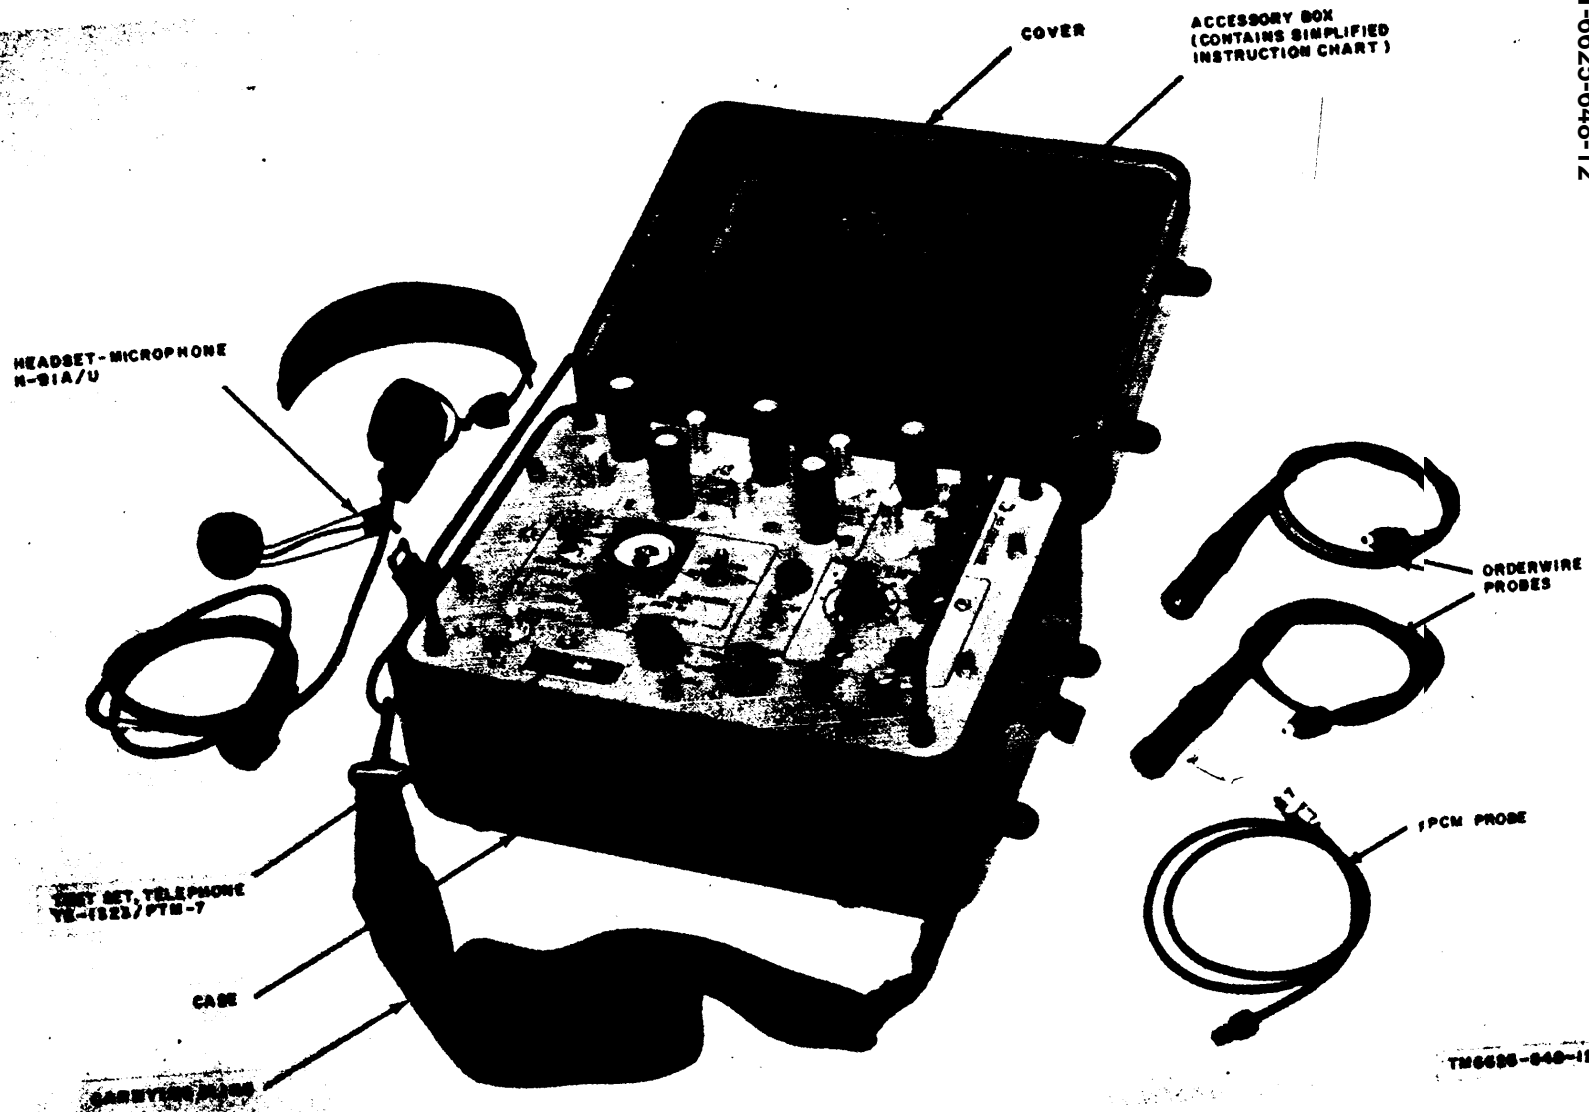

Figure 1-1. Test Set, Telephone AN/PTM-7.
This manual describes Test Set, Telephone AN/PTM-7 (fig. 1-1). It includes instructions for installation, operation, and organizational maintenance.
The AN/PTM-7 (fig. 1-1) can locate faults in a pulse-code modulation (pcm) cable link consisting of Restorers, pulse Forms TD-206/G and Cable, Special Purpose, Electrical CX-4245/G. The AN/PTM-7 also provides facilities for order-wire communication with attended stations.
- a. The AN/PTM-7 (fig. 1-1) is a transistorized, battery-operated hand-portable test equipment containing facilities for testing the CX-4245/G and the TD-206/G. Test Set, Telephone TS-1323/PTM-7, the major component of the AN/PTM-7, is enclosed in an aluminum case. When the cover of the case is in place, the TS-1323/PTM-7 is watertight and floatable. When the cover is removed for operation, the chassis remains rainproof.